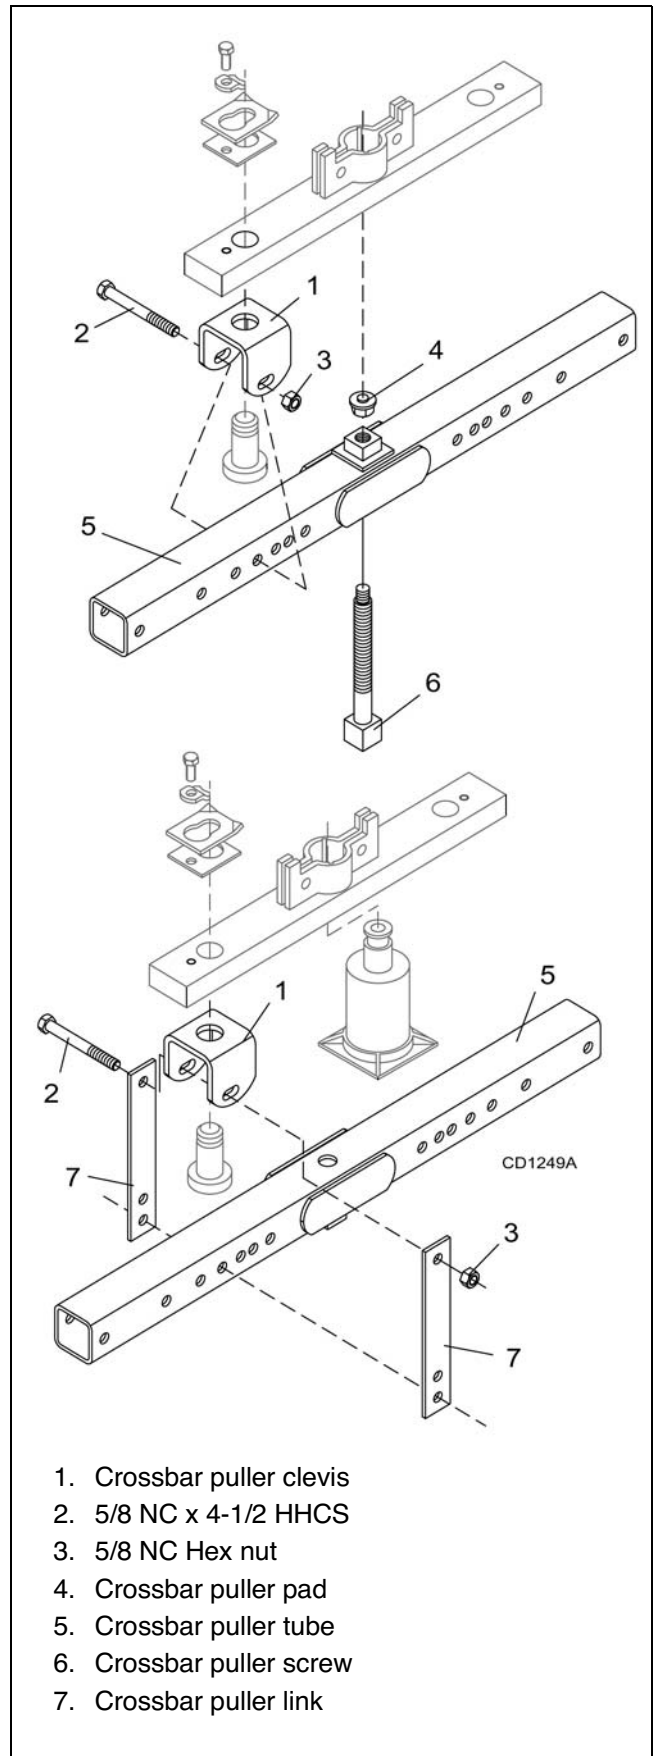

Figure 13. Crossbar Removal
NOTE: You will need to use either the puller screw (Item 6, Figure 13) or a small hydraulic jack to remove the crossbar.
4. Refer to Figure 13. Attach a clevis (1) to each end of crossbar, using blade pins, spacers, keyhole plates, and blade pin clips.
5. Position tube assembly (5) with threaded nut (4) toward crossbar for puller screw removal or down for hydraulic jack removal.
6. For removal with puller screw, attach tube (5) to each clevis with bolts (2) and nuts (3). Place pad (4) in nut and thread puller screw (6) into nut from bottom. Tighten until pad is solid against gearbox shaft. For best results, strike head of puller screw with a hammer while tightening with a wrench.
7. For removal with a jack, attach tube to each clevis with puller links (7), bolts (2), and nuts (3). Place jack on tube with end of jack pressing against gearbox shaft. Slowly apply force with jack.